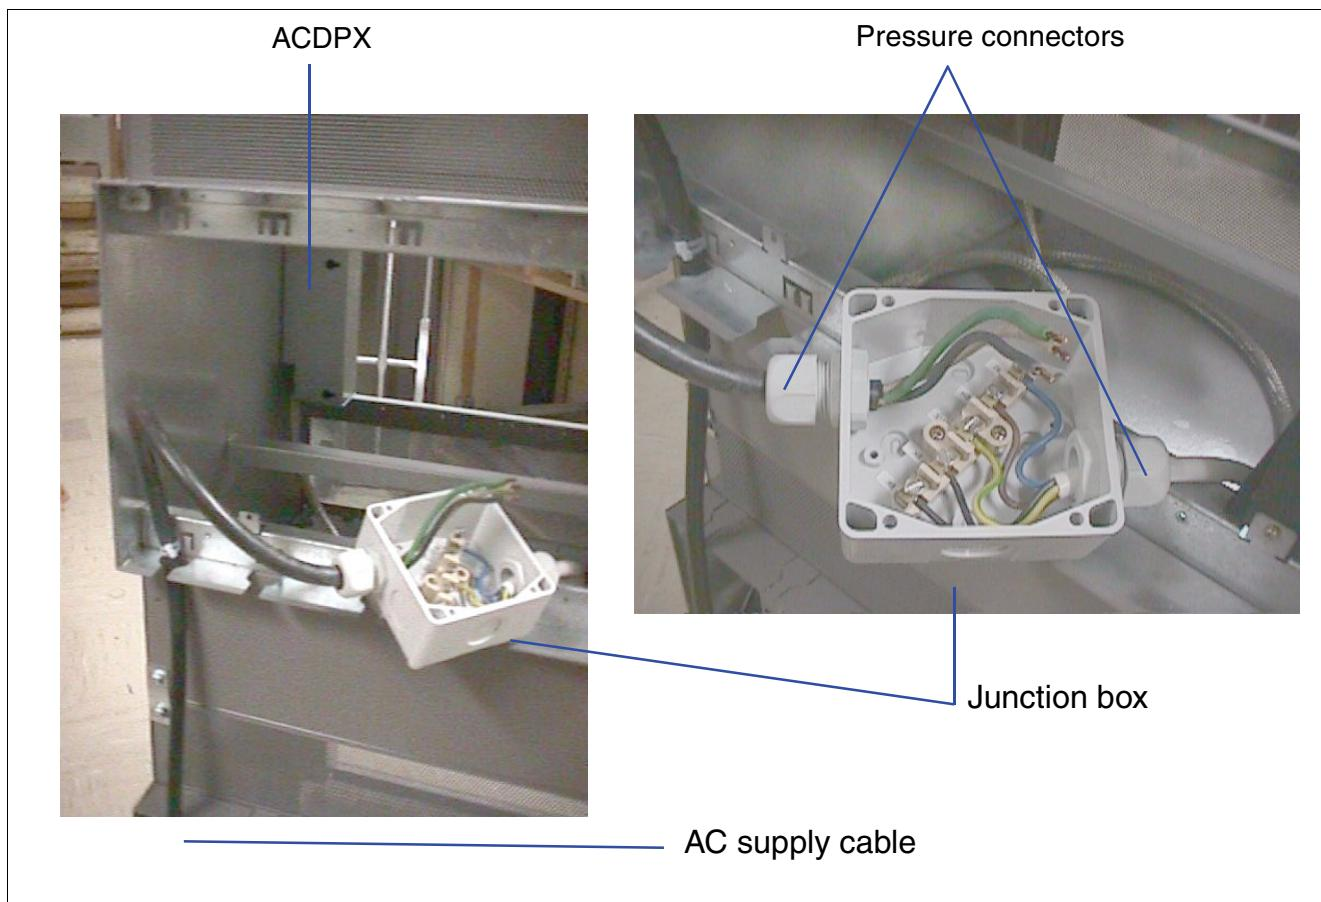

Figure 4-12 Removing the ACDPX from the UACD
3. Remove the top and bottom screws that secure the ACDPX to the upper and lower shelf supports (see Figure 4-12).